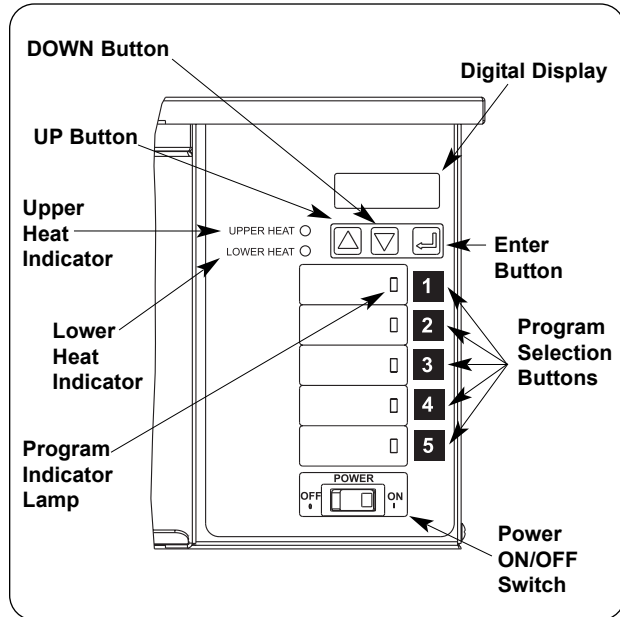

Figure 10. Control Panel
2. Turn the Power Switch to the “ON” position. (See Figure 10). The unit will make an audible beep, automatically go into “Preheat” and the display will indicate **5:00**. If the unit displays “OFF”, press one of the five product selection keys to put the unit into “Preheat” mode.